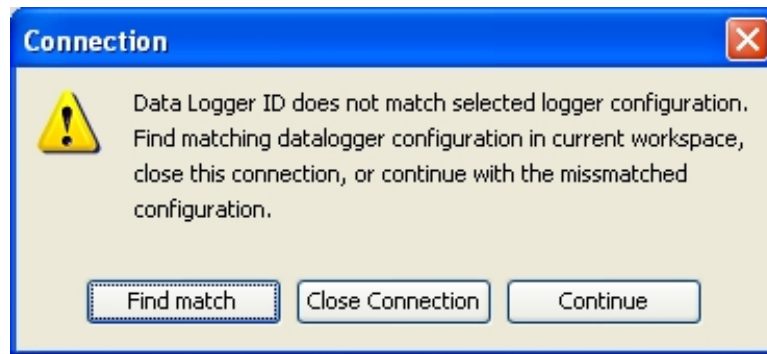

Figure 11 - Datalogger Connection Mismatch
- 2) When connecting to a new Datalogger for the first time, the message below (see Figure 11) may be displayed after a few seconds. This is normal and is only an indication that the datalogger doesn’t match the configuration created in the Project Explorer. Click on “Continue” to finish connecting to the datalogger.